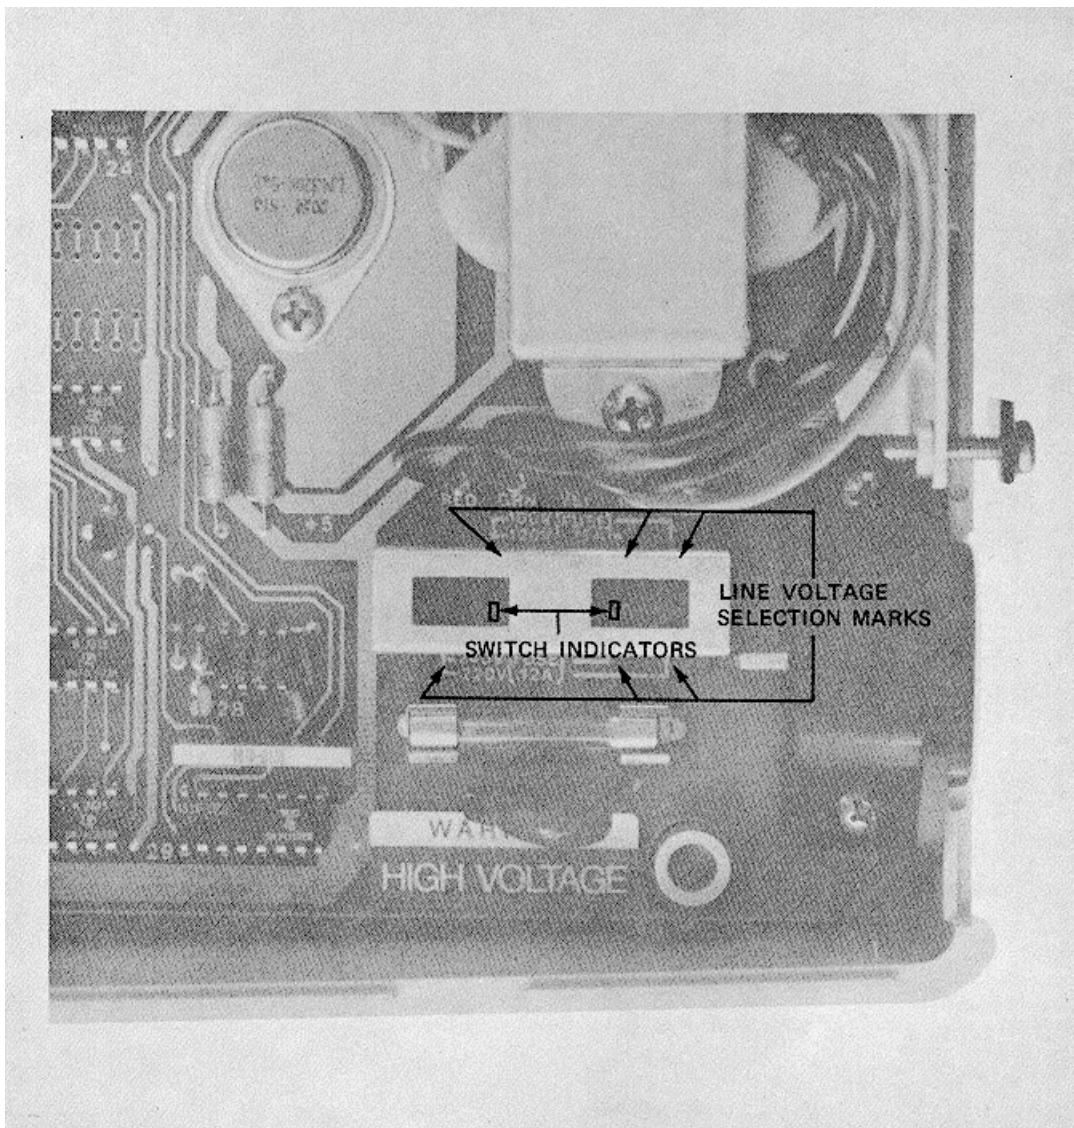

Figure 5-2. Fuse and Line Voltage Selection
- b. Refer to Figure 5-2 which shows the line fuse holder and the line voltage selection switches. Both switch indicators must be set to the line voltage selection marks to match the available line voltage.